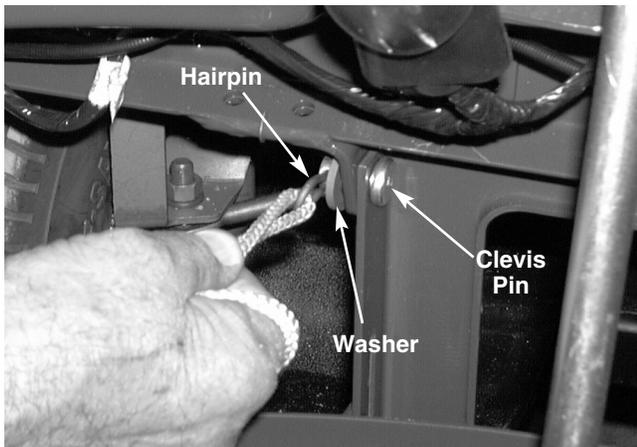

FIGURE 4.
- 5). Remove both of the clevis pins, flat washers, and hairpin clips that secure the deck stabilizer bracket to the front channel assembly. See figure 4.